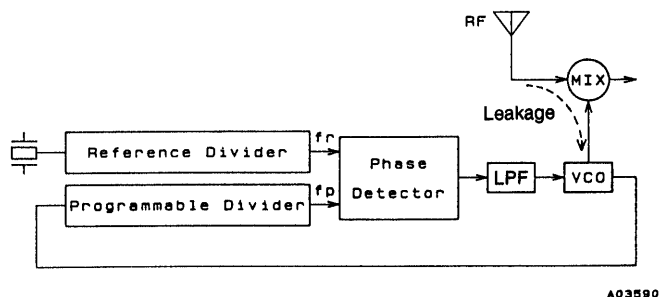
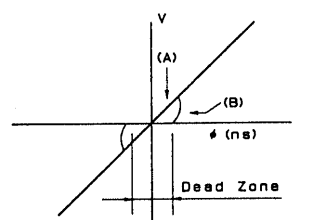

Figure 11
Figure 12
The phase comparator compares f_p with a reference frequency (f_r) as shown in Figure 11. Figure 12 shows the characteristics of an ideal phase comparator, which outputs an output voltage (A) that is proportional to the phase difference ϕ . However, in an actual IC, a region (dead zone) in which minute phase differences cannot be detected occurs due to internal circuit delays and other factors. To implement an end product with a high S/N ratio, the dead zone should be as small as possible.